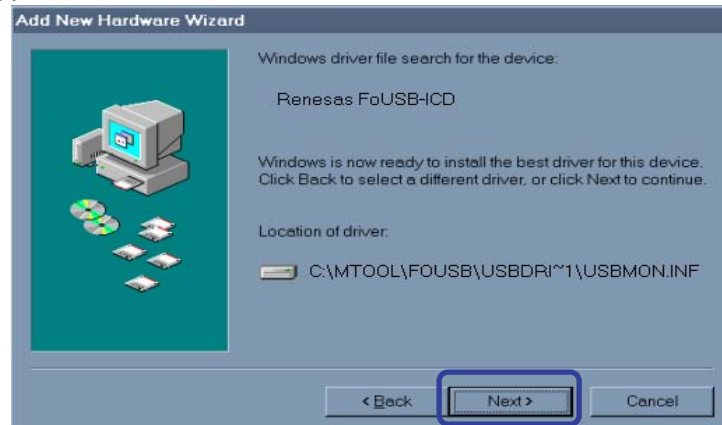

Figure 7-3 USBMON Driver-1
- 7) When the Windows system has been prepared to install the driver the wizard shown in Figure 7-3 appears. So click the <Next> button.